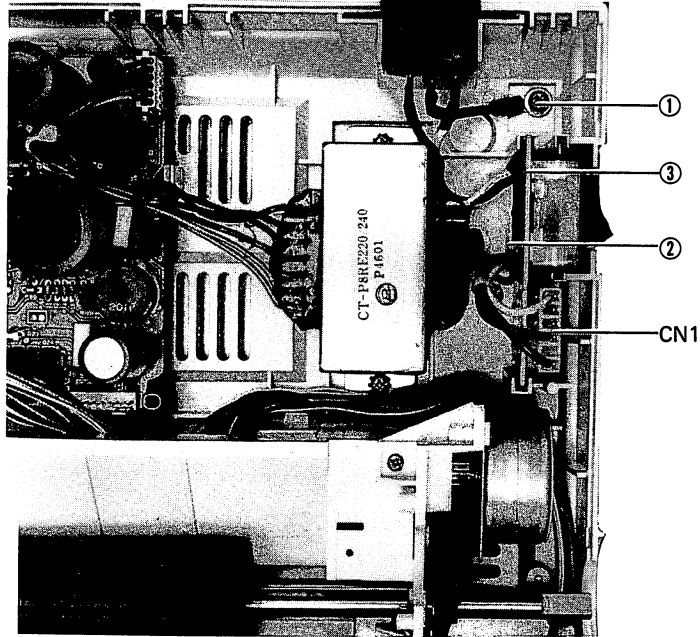

Fig. 4-5. Filter Circuit Board Removal
4.2.5 Filter Circuit Board Removal (Fig. 4-5)